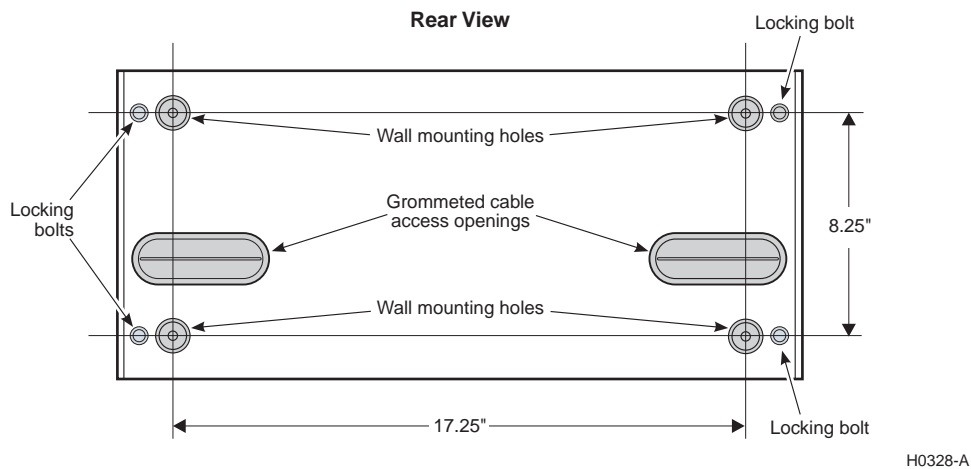

Figure 2. HRE-425 List 1 Backplate
- 1 Loosen the four rear-panel locking bolts and remove the backplate (Figure 2).